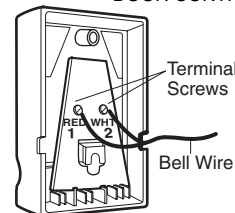

Figure 4 REMOVE COVER
- Remove cover by gently prying at slot on the side of the cover with a small flat head screwdriver (Figure 4). Fasten with 6ABx1-1/4" self-tapping screws (standard installation) or 6-32x1" machine screws (into gang box) as follows: